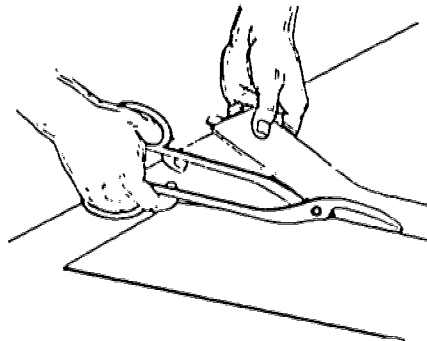

FIG 2 MAKING A STRAIGHT CUT
3. Grasp the snips in the right hand and the narrowest part of the sheet in left hand. (Fig. 2).
5. Cut the sheet by closing the blades just short of the full length to prevent leaving jagged edges. (Fig. 2).